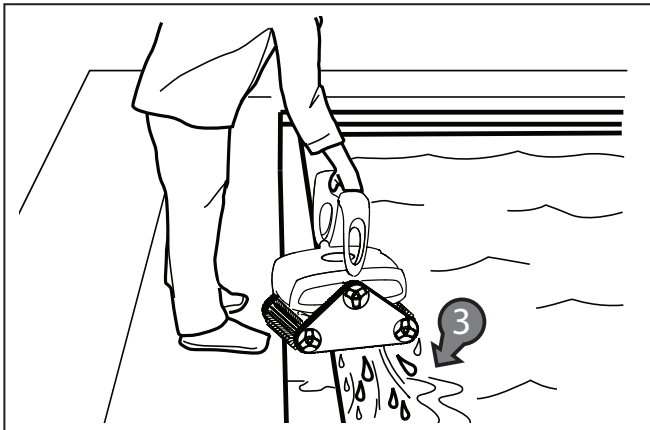

Figure 15. Lift Cleaner From Pool with Handle
- Hold the cleaner vertically over the pool surface to drain water before removing (Figure 15).